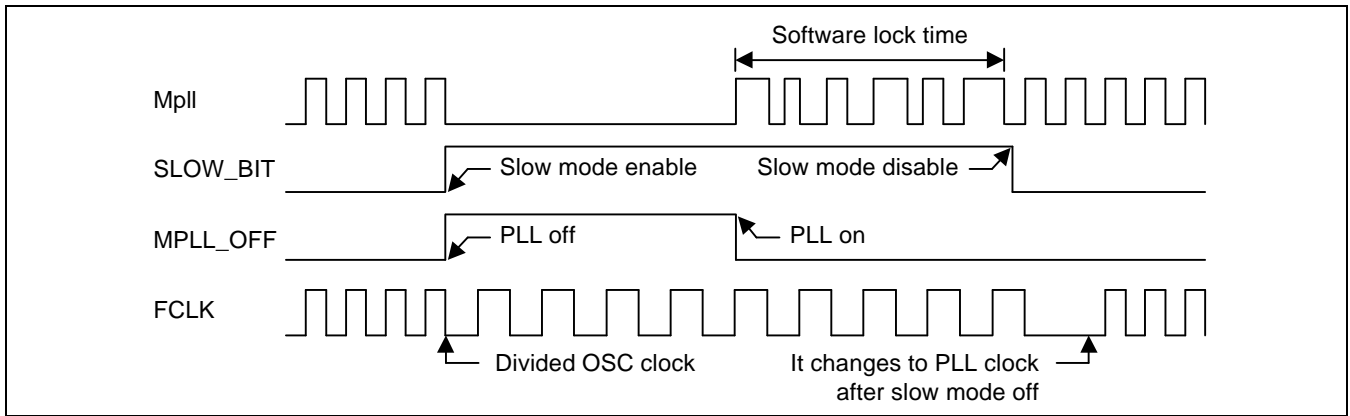

Figure 7-10. Issuing Exit_from_Slow_mode Command After Lock Time
11. CLOCK & POWER MANAGEMENT : 7-12 : Figure 7-10 : 01/20/2003